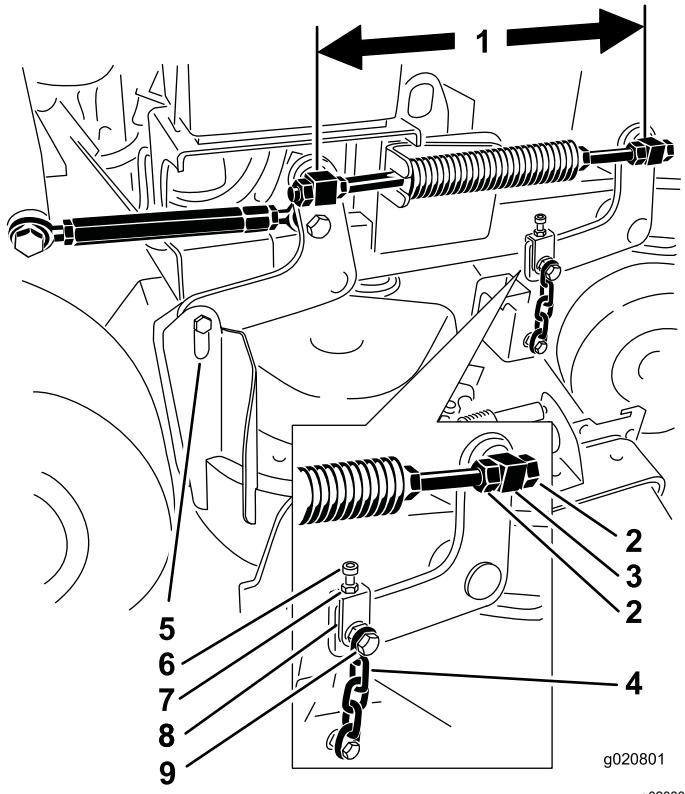

Figure 80
1. Check the distance between the swivels, measuring at the center of the swivels (center-to-center length) on each threaded rod (Figure 80).
2. Loosen the jam nuts at the **front** swivel (Figure 80).
4. Tighten the jam nuts at the **front** swivel (Figure 80).
6. If adjustment is needed, loosen the upper chain bolt (Figure 80).
5. Loosen the upper chain bolts (Figure 80).
6. Loosen the jam nuts on each yoke (Figure 80).
8. Tighten the jam nuts and upper chain bolts (Figure 80).